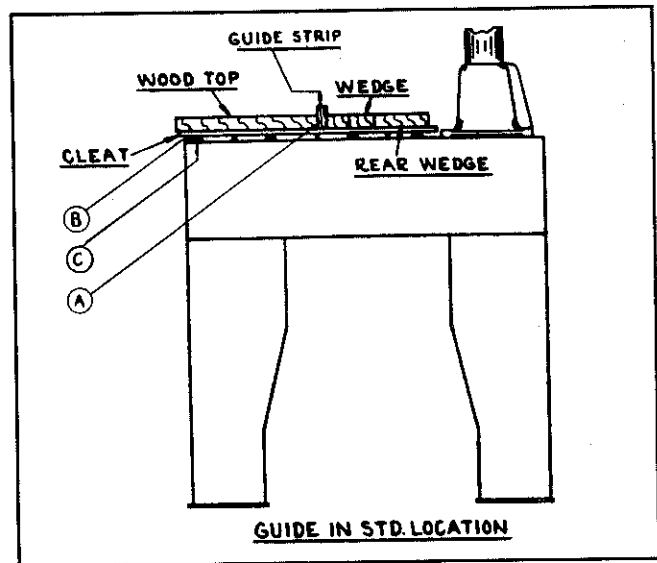

FIGURE 5—Model GS
The arm tracks must be parallel to the table top at all points. A parallel condition assures uniform depth of cut ... especially in dadoing, etc. If the work table top ever gets out of level on the Model GS or GW ... you can adjust this. Refer to Figure 5 (B) and (C).